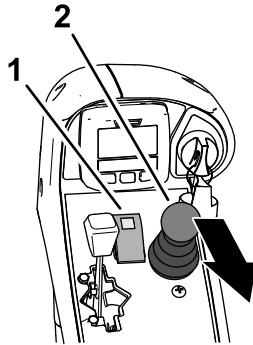

Figure 48
1. Press the PTO switch to the DISENGAGE position (Figure 48).